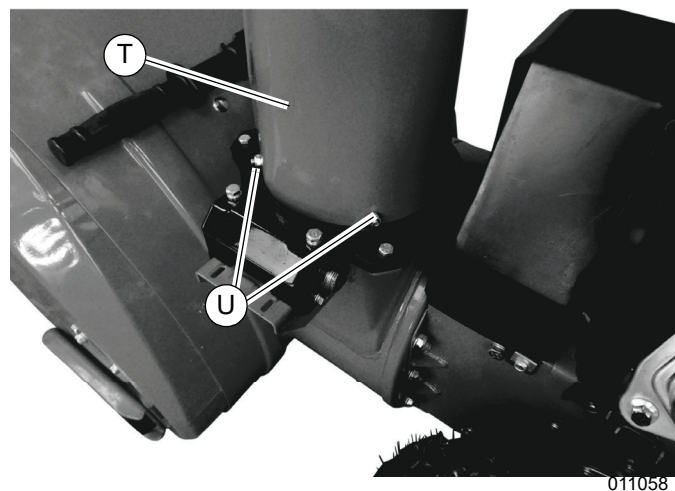

Figure 2-12. Carriage Bolt Locations
13. See Figure 2-12. Secure chute assembly (T) to gear plate assembly (U) with three M8-1.25 X 16mm carriage bolts and locknuts using a 13mm wrench.